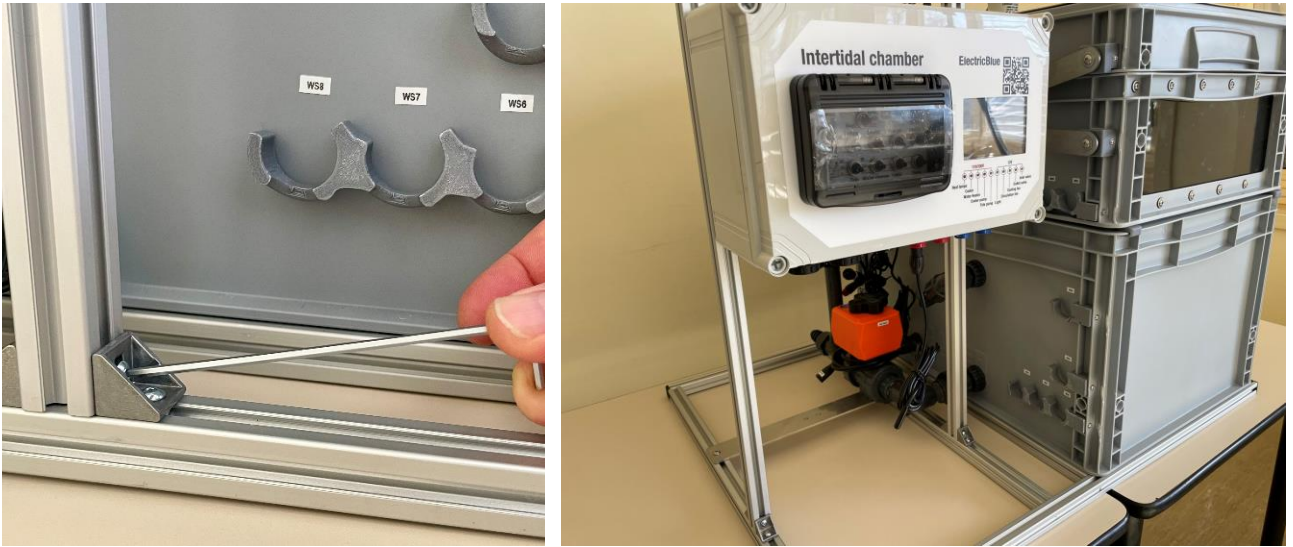

Fig. 5: Assembly step 3.
- 3- Place the aluminium bars on top of the main frame and tighten the M4 V-nuts to fix the structure (**Fig. 5**).